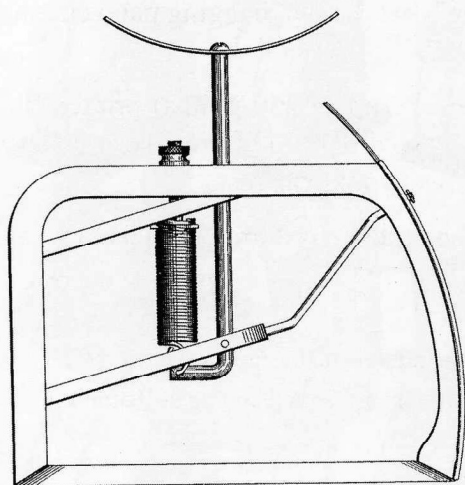
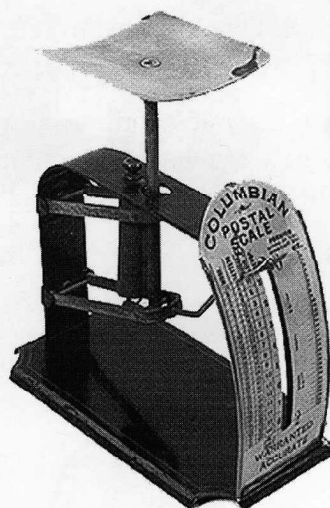

Figure 1 ▲▲
Figure 2 ▲▲
2. Berning, B & J, *Scales: A Collector's Guide*, page 15 shows a fourth version. The pillar is the same as that in Fig. 1, but the lettering in the arc matches that in Fig. 2.